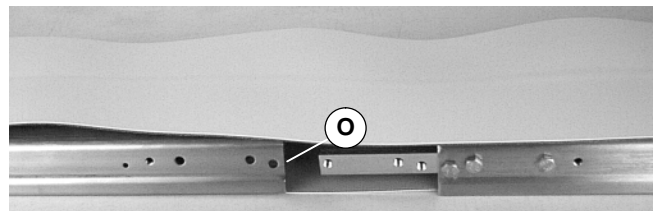

Figure 7
4. Place conveyor frame (O Figure 7) into belt loop.